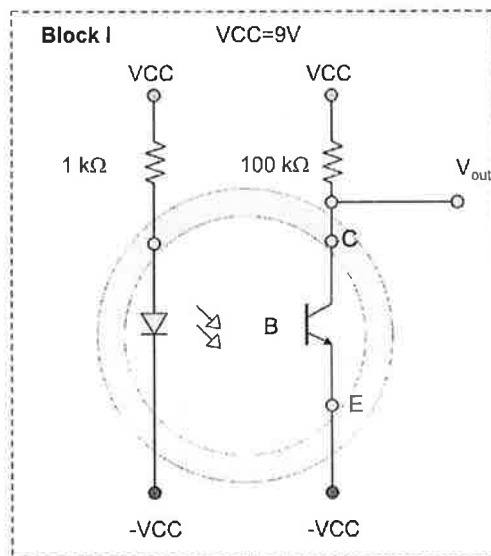

Fig. 3. Block I of the circuit - a sensor (top view). The blue LED is on the left.
5. Estimate the gain tolerance ( $\pm X\%$ ) of the non-inverting amplifier in Fig. 3 assuming that the tolerance is determined by the errors in the resistor values. You have 5%-tolerance resistors.
The idea of the sensor is shown in Fig. 3. Infrared light is well absorbed in blood and weakly absorbed in tissue. Any changes in blood volume will be registered since increasing (or decreasing) blood volume will cause more or less light absorption. This principle is used to detect the heart rate.
The sensor includes the emitter (an infrared IR LED 940nm Digikey 751-1201-ND) and a detector (an infrared phototransistor or a photo BJT Digikey 160-1031-ND). Both are operating at 940 nm wavelength. The base current of the phototransistor is generated by incident infrared light. Therefore, the base is not connected in Fig. 3. When a finger is placed between the emitter and phototransistor, the collector current will slightly vary in response to the pulse beats. Our goal is to extract and amplify those variations.
Please build the circuit from Fig. 3 - Block I of the final circuit. Turn the power supply on. With CH 1 of the oscilloscope measure the output voltage  $v_{out}$  versus